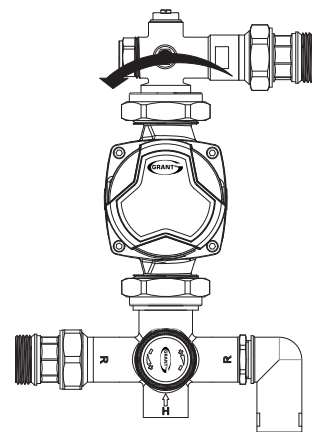
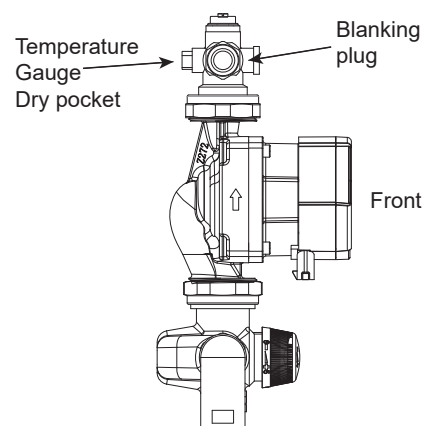
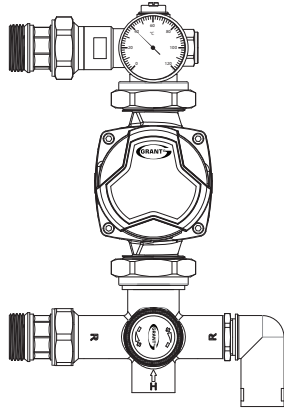

Figure 3-7: Rotate mixed manifold outlet
Figure 3-8: Blanking plug and Temperature Gauge
Figure 3-9: Right-side connection
5. Use a spanner to release the pump connecting nut at the top allowing the mixed manifold outlet to be rotated 180°, changing from right to left. Refer to Figure 3-7 The pressure gauge face will now be to the back. Once in place retighten the connecting nut. Refer to Figure 3-8.
6. Remove the blanking plug on the front of the manifold and the temperature gauge dry pocket (with a 12mm open ended spanner), swap positions and re-fit ensuring tight connections to allow the temperature gauge to be viewed from the front when inserted. Refer to Figure 3-8.
7. The Grant Uflex pump control set is now configured for a right-sided connection. Insert the supplied temperature gauge into the dry pocket as indicated in Figure 3-8. Refer to Figure 3-9 for fully assembled Grant Uflex Pump control set.